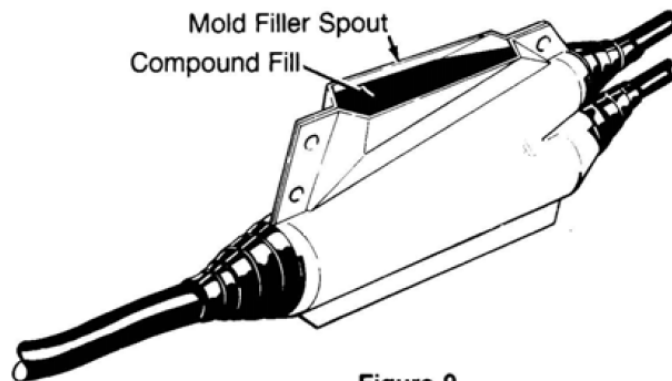

Figure 9
5. Fill mold until compound reaches a level that is within the mold's filler spout. (Figure 9)